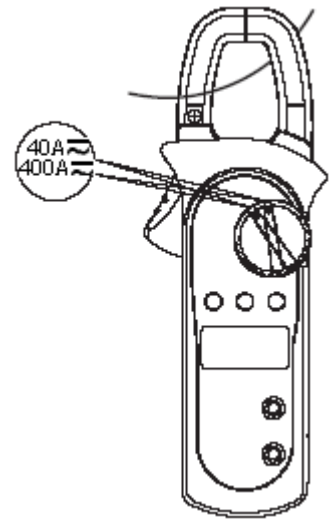

Figure 9
G. DC/AC Current Measurement (see figure 9)